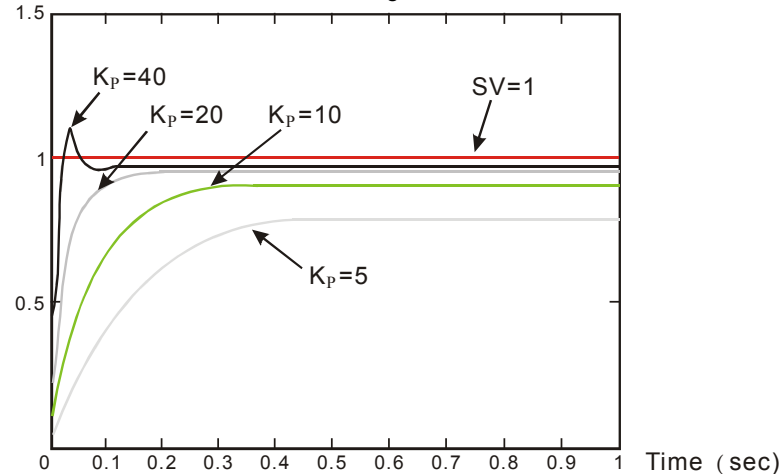

Figure 1
**Step 1:** First, set the  $K_i$  and the  $K_d$  to 0. Next, set the  $K_p$  to 5, 10, 20 and 40 successively, and record the target values and the present values. The results are shown in Figure 1.